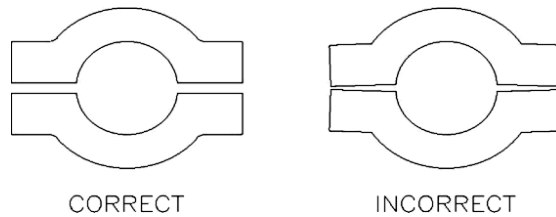

Figure 13: Piston Rod Clamp Orientation
8. Make sure the ends of the clamps are not being deformed when compared to the center of the clamp. See Figure 13 for the correct and incorrect clamp orientation.